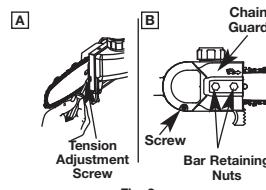
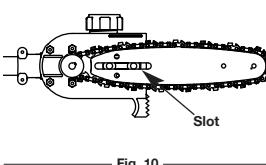

Fig. 8
Fig. 10
- Remove the bar retaining nuts and screw. Then take off the chain guard (Fig. 8, B).
- Using a flat-head screwdriver turn tension adjustment screw counterclockwise (Fig. 8, A) 4 turns.
- Adjust the tension adjustment screw (Fig. 8, A) to allow insertion of the bar (Fig. 10). Make sure the chain follows the slot in the guide bar and adjust the tension adjustment screw to make the chain fit snugly on the underside of the bar.
- Install the chain guard and tighten bar retaining nuts and screw (Fig. 8, B).
- Loosen the bar retaining nuts so they are hand tight (Fig. 8, B).
- Holding the nose of the bar up, use the screwdriver to turn the guide bar adjustment screw clockwise to tighten the chain (Fig. 8, A). Turning the screw counterclockwise loosens the chain on the guide bar.